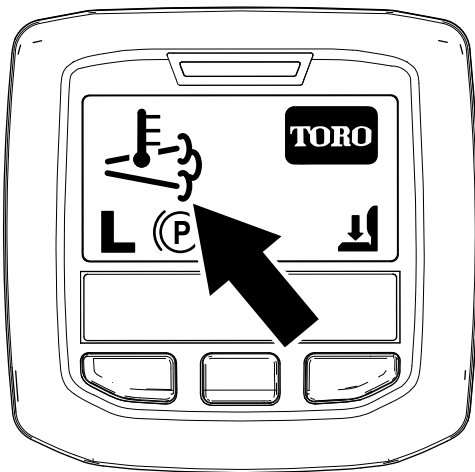

Figure 44
- The high exhaust-temperature icon  displays in the InfoCenter (Figure 44).